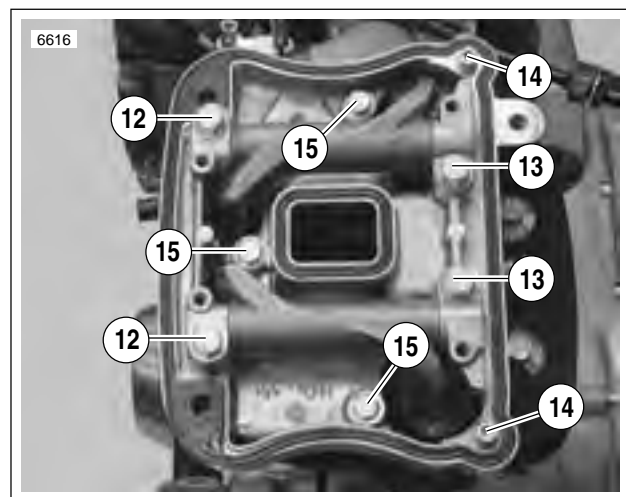

Figure 3-66. Lower Rocker Box Fasteners
15. See **Figure 3-66**. Install fasteners. Slowly snug all fasteners in small increments (one turn at a time). Use a cross pattern on the four large bolts) that fasten the lower rocker box to head. This will bleed the tappets. Fastener sizes and torque specifications are listed in **Table 3-8**.